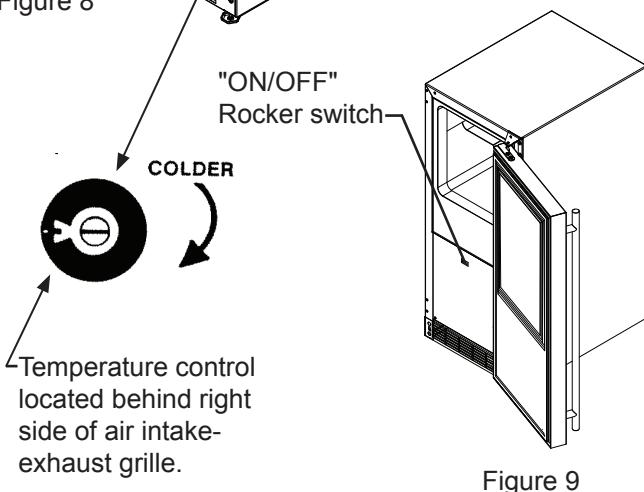

Figure 9
After connecting the water supply, and setting your ice machine in place plug the power cord into the wall receptacle. Then place the switch located behind the door below the ice compartment (see Figure 9) to the "ON" position. The temperature control is factory preset, allow the ice maker to run for 24 hours so the interior temperature will stabilize. If you wish to adjust the interior temperature use a small bladed screwdriver pushed through the right hand side of the grille to turn the temperature control shaft. Turning it clockwise will make the unit colder. Turning it counterclockwise will make it warmer. Turning it counterclockwise until it stops will shut off the compressor and fan motor.
Should you turn off your control, allow at least five (5) minutes before restarting in order to give the motor control time to automatically reset so that it can restart the motor. Electrical power to your unit is controlled by the "ON/OFF" rocker switch located behind the door below the ice compartment (See Figure 9).